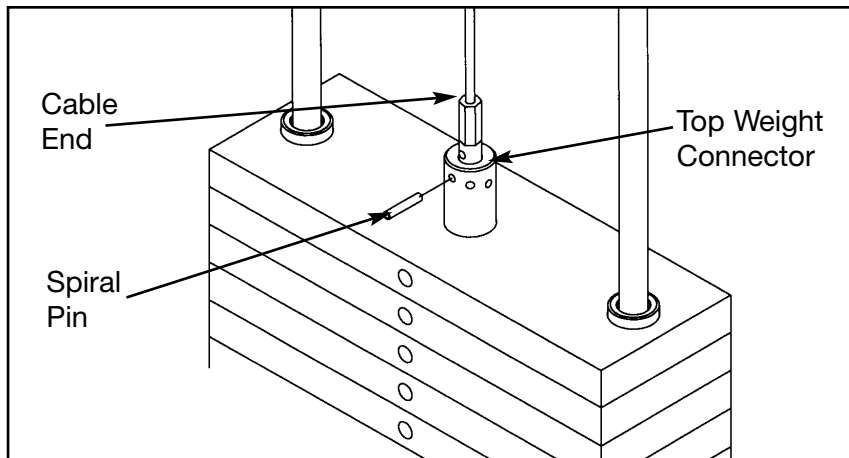

Figure 8
1. Slide protective rubber cover up cable to expose cable/plate junction. Note roll pin location in cable fitting. See Figure 8.